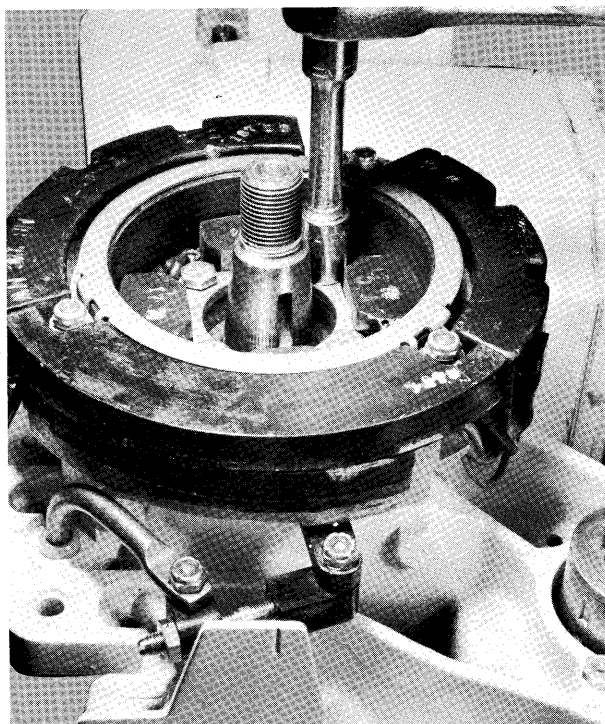

Figure 23 - Removing Trigger Assembly
- C. Remove eight (8) screws and lockwashers securing lead wires to trigger modules.
- D. Remove four (4) screws securing trigger assembly to bearing cage as shown in figure 23 and remove same from bearing cage.